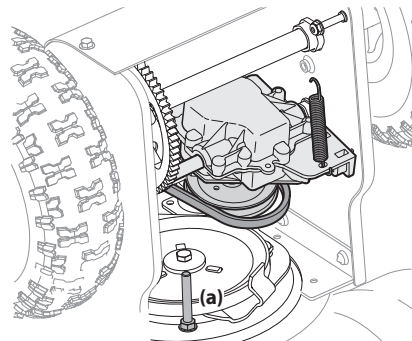

Figure 4-16
- Tip the snow thrower up and forward so that it rests on the auger housing. Remove the belt keeper (a). See Figure 4-16. Return the snow thrower to its upright position to complete the following steps.